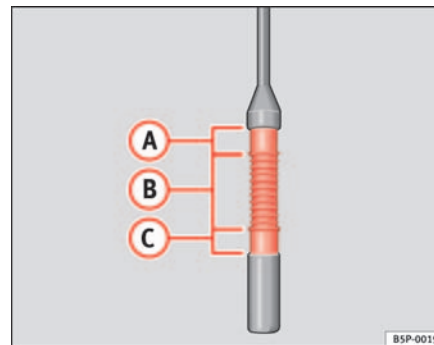

Fig. 127 Engine oil dipstick.
- Pull the dipstick out again and check the oil level ⇒ page 180, fig. 127.
If the oil level is in area ⇒ page 180, fig. 127 **(A)**, do not top up with oil.